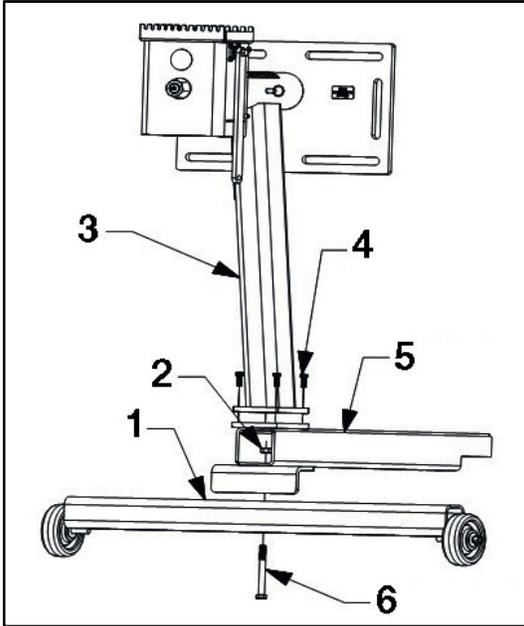

Fig. 3: Rear subassembly
- 4 1" L, 3/8-24UNF Grade 5 cap screw (4)
1. Use (1) 1/2-13UNC grade 5 cap screw 4-1/2" long to fasten the Rear Caster Tube to the Outer Main Tube. Torque hardware to 70 ft-lbs minimum (Fig. 3).
2. Use (4) 3/8-24UNF grade 5 cap screws 1" long to fasten Rear Post to Outer Main Tube. Torque to 30-35 ft-lbs (Fig. 3).